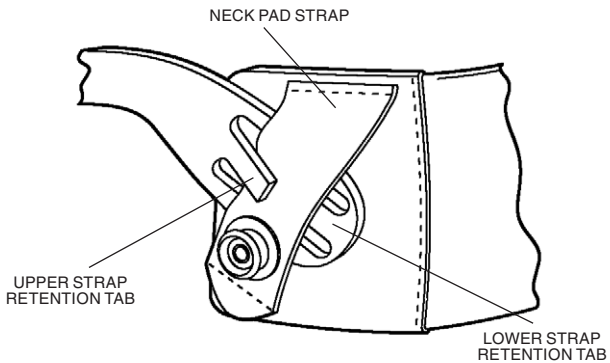

FIGURE 4.1. REINSTALLING THE NECK PAD
- (1) Lift the upper headband strap retention tab (see Figure 4.1.) allowing the neck pad strap to be inserted underneath.
- (2) Slip the neck pad strap all the way under the upper strap retention tab and then pull the lower part of the neck pad strap under the lower strap retention tab.
- (3) Repeat steps 1 and 2 for the other side of the headband and neckband if necessary.